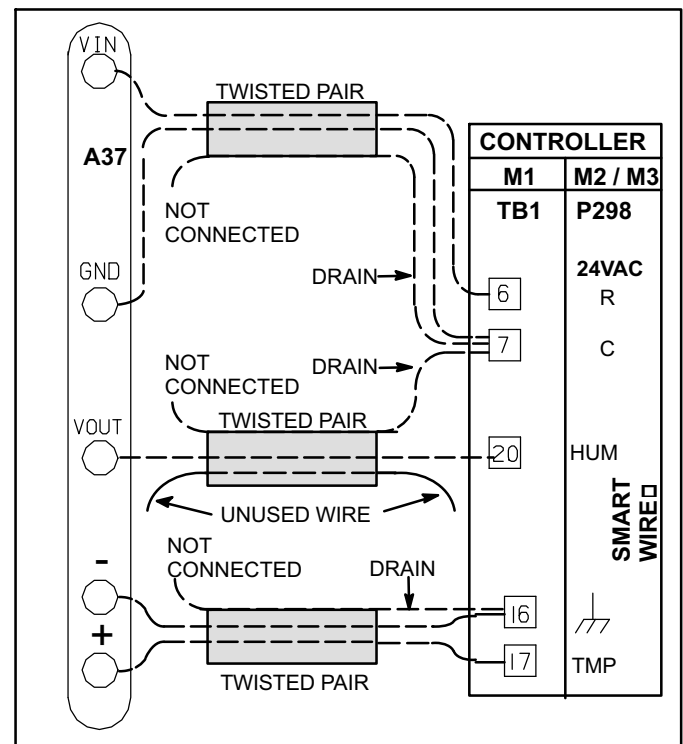

Figure 1. Field Wiring (150' [46m] or shorter runs)
Use three separate shielded cables containing 20AWG minimum, twisted pair conductors with overall shield (Belden type 8762 or 88760 [plenum] or equivalent). Connect cable shield drain wires as shown in figure 1.
Use three separate shielded cables containing 18AWG minimum, twisted pair conductors with overall shield (Belden type 8762 or 88760 [plenum] or equivalent). Connect cable shield drain wires as shown in figure 1.
6. Connect wiring for appropriate length of run as shown in figure 1 or 2.